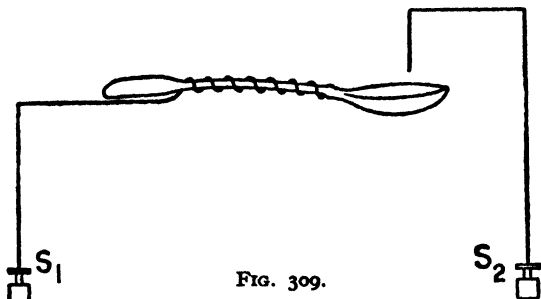

FIG. 309.
1. Copper wire is wound round the handle of a clean metal spoon (fig. 309), one end of the wire being attached to one of the secondary terminals of the coil. Another wire is joined to the other terminal and its free end brought near to a few drops of ether in the spoon. On passing sparks, the ether will burst into flame. While the spoon is still warm, methylated spirit is